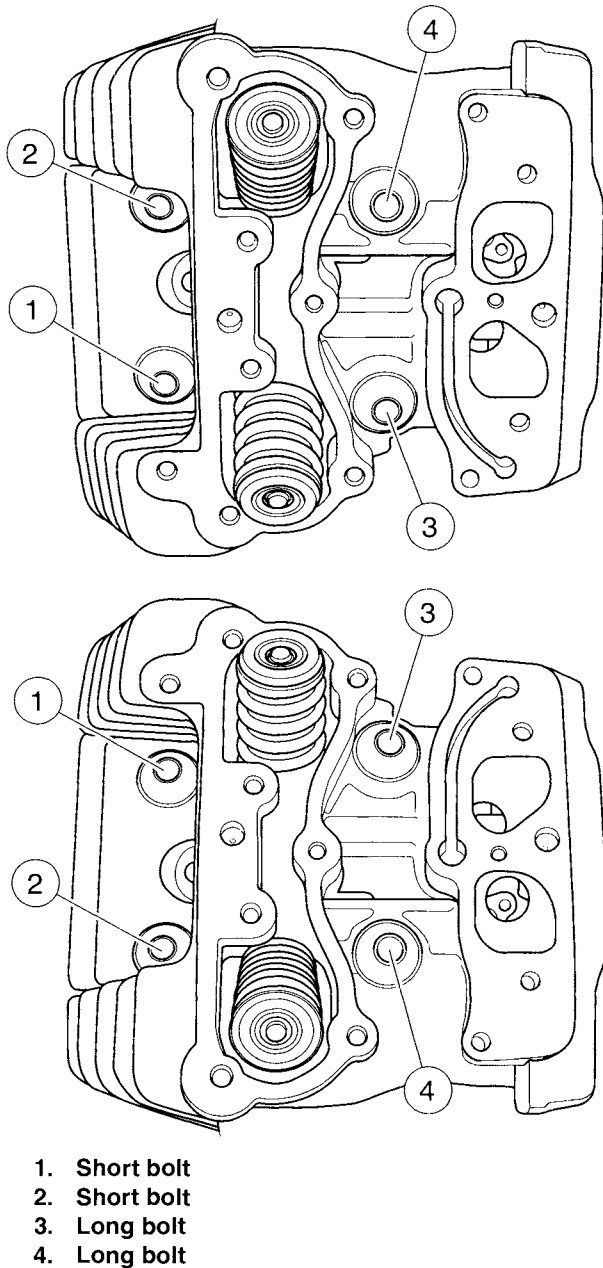

Figure 3-39. Cylinder Head Bolt Torque Sequence (Top: Front Cylinder Head, Bottom: Rear Cylinder Head)
4. See Figure 3-39. Loosely install the cylinder head bolts onto the cylinder studs. Place two short bolts on the left side of the engine and two long bolts on the right.
- e. Using the marks as a guide, turn each bolt 1/4 turn or 90 degrees. Be sure to tighten the cylinder head bolts in the sequence shown in Figure 3-39.